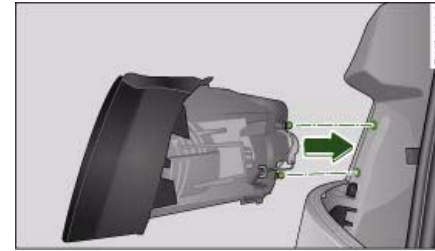

Fig. 305 Installing rear light
- Insert the rear light into the rear light carrier ⇒ fig. 305.